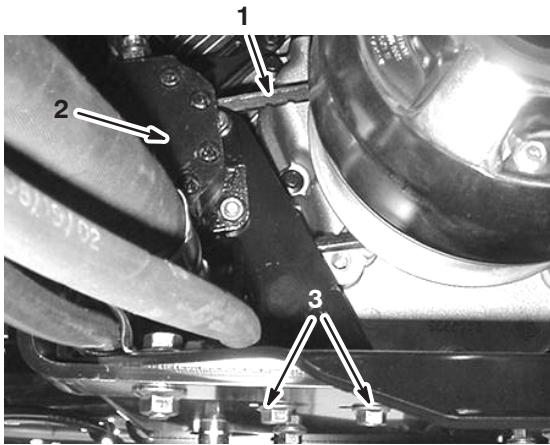

Figure 54
2. Loosen the steering pump mounting bolts (Fig. 54).